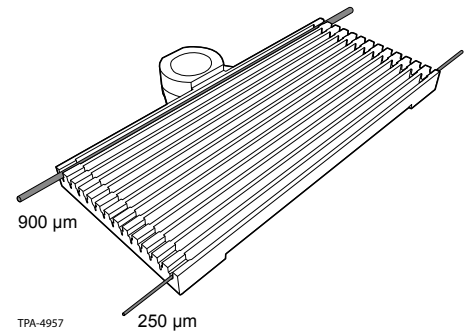

Figure 13
**Step 1:** Spliced fibers in the OSE-ST-2 splice tray are stored in the step-slot organizer. This organizer accepts 250 and 900  $\mu\text{m}$  fibers (Figure 13). The 250  $\mu\text{m}$  fibers are secured in the lower grooves in the organizer while the 900  $\mu\text{m}$  fibers fit into the surface slots.